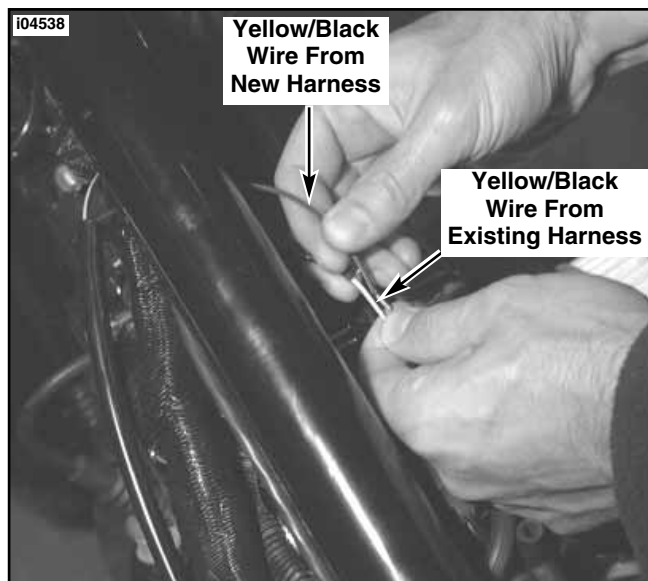

Figure 3. Connect New Harness to Existing Harness
9. See Figure 3. Continue routing harness toward front of bike and perform the following: